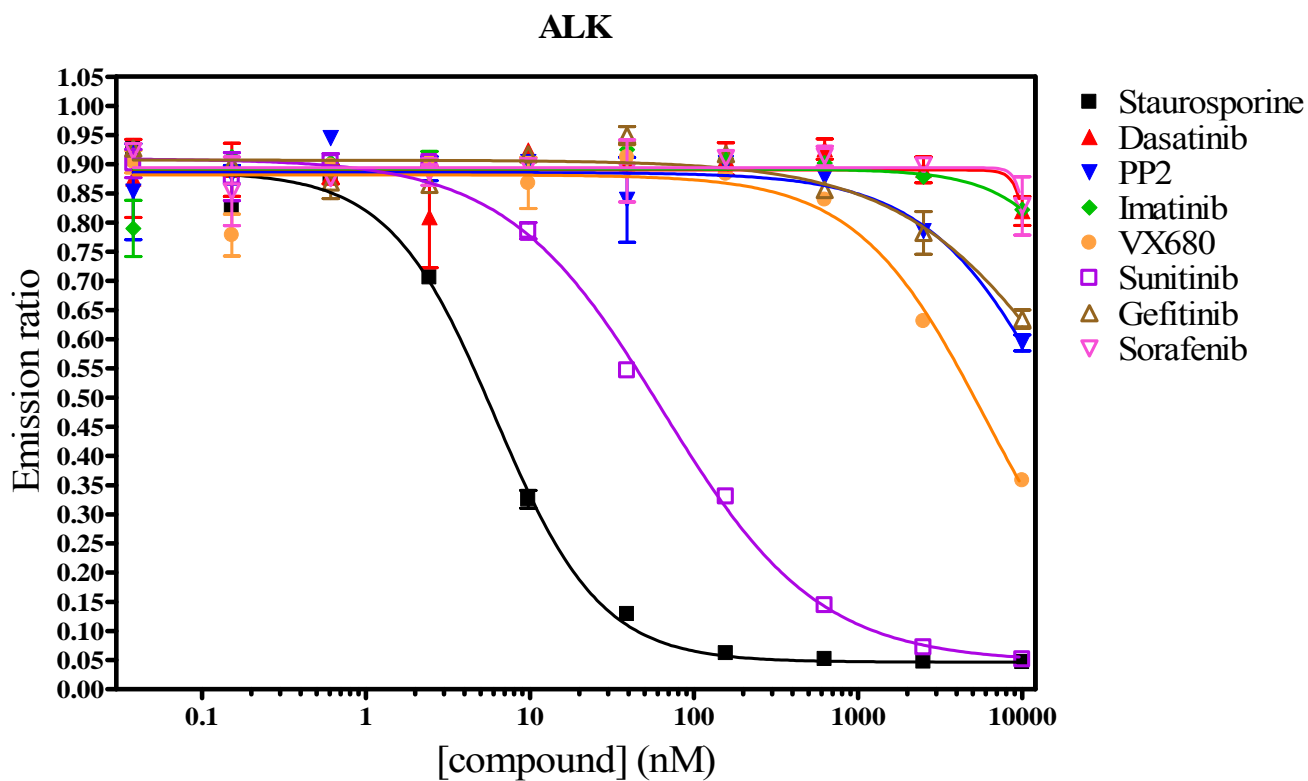

Figure 7. Representative data generated at Invitrogen.
2. Plot [test compound] versus emission ratio. The sigmoidal dose-response curve with a variable slope can be fit to the data (see section 1.3, step 2 for equation). Representative data generated by Invitrogen for a set of well-characterized kinase inhibitors is presented in Figure 7. A comparison of IC₅₀ values to literature and in some cases internally generated data from activity-based assays (SelectScreen™ profiling service) are provided as a reference in Table 1.